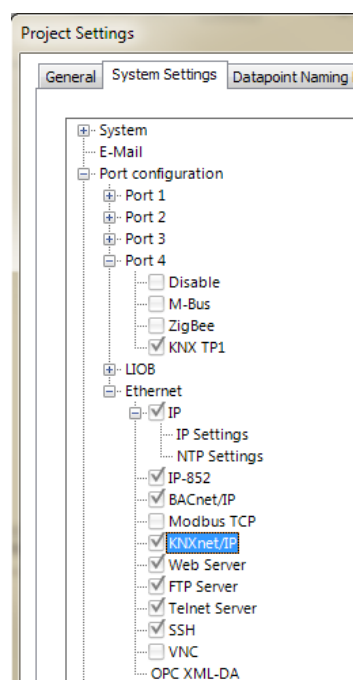

Figure 290: Enabling KNX/TP1 and KNXnet/IP in the Project Settings Dialog.
2. In the **System Settings** tab enable the KNX for Port 4 and/or for the Ethernet port, as shown in Figure 290.